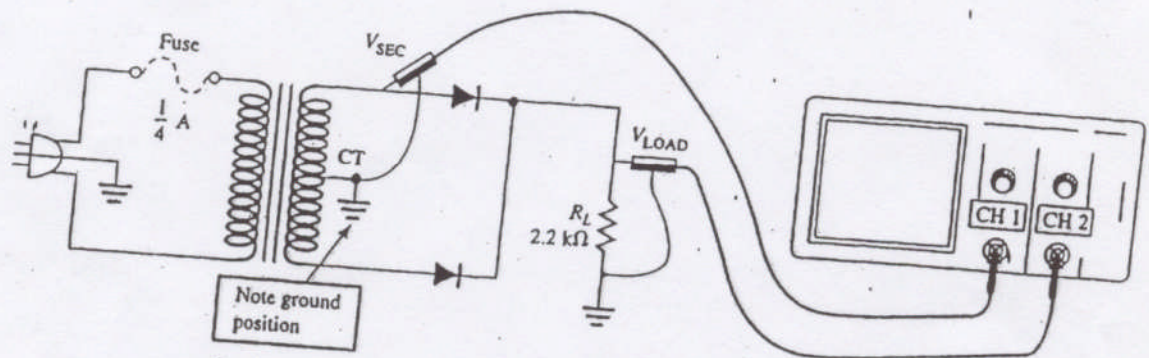

Figure 4
5. Next measure the rectified voltage V_{load} with channel 2. The vertical should be in the dc mode for this measurement. Record the reading and draw the signal relationships to each other. See fig. 4